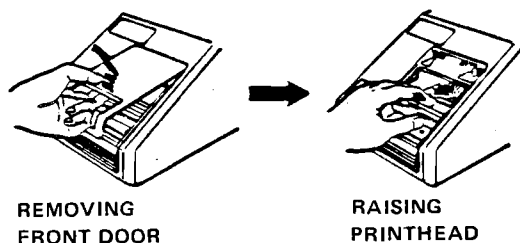

Figure 1
- 2.3 Pull printhead locking lever forward to raise print-head assembly (see Figure 1).